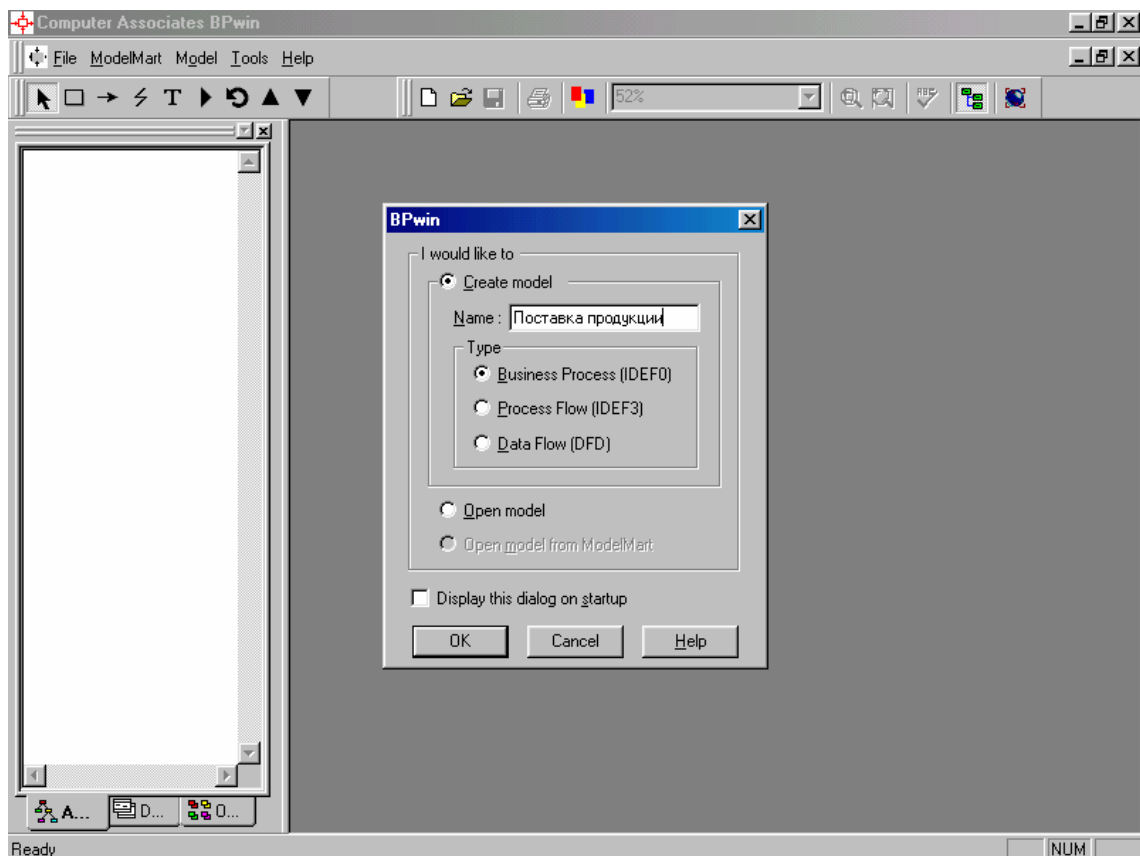

Figure 1.1
2. Enter the name of the model "Delivery of products" (without quotation marks) (Figure 1.1) and click "OK".